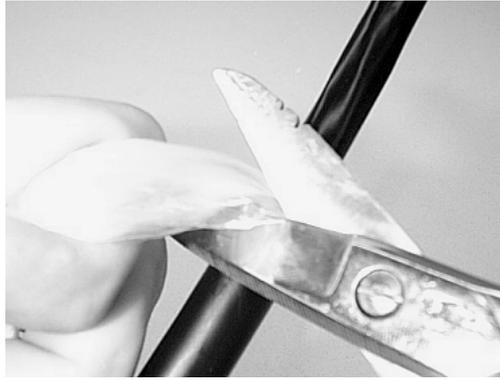

Figure 9 – Cut the dielectric strength members to the required length.
4.10 Consult the closure instructions to determine the length of dielectric strength members that is required for fastening in the closure. Separate and cut the dielectric strength elements to the required length (Figure 9).